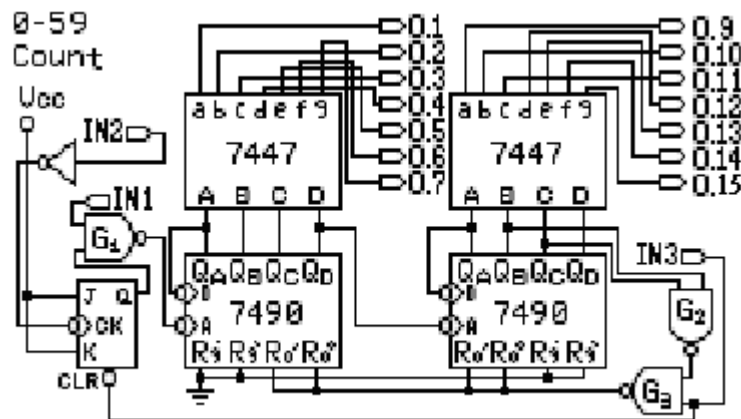

Figure 10-1
1. 0-59 Timer and stop watch, as figure 10-1.